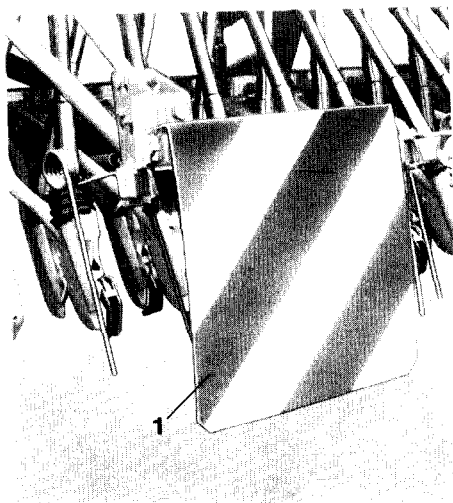

Fig. 33
- The following harrow with pendulum balance and single coulter stilt harrows must be marked by two red/white striped warning plates (Fig. 33/1) on their right and left hand ends.